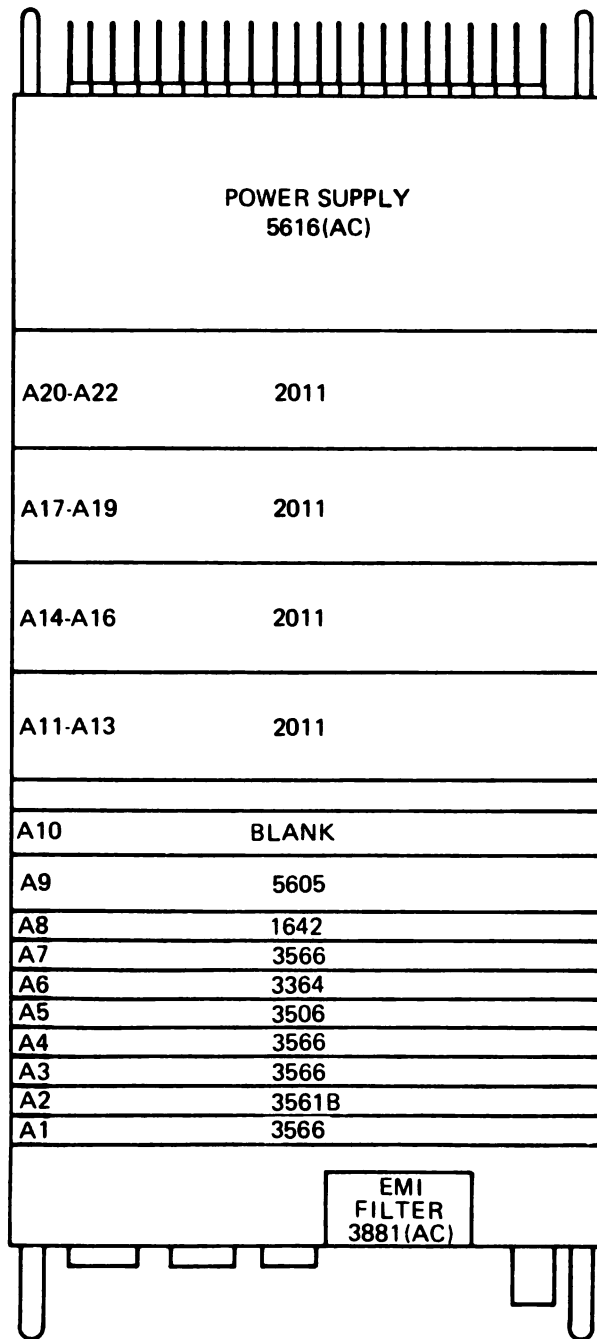
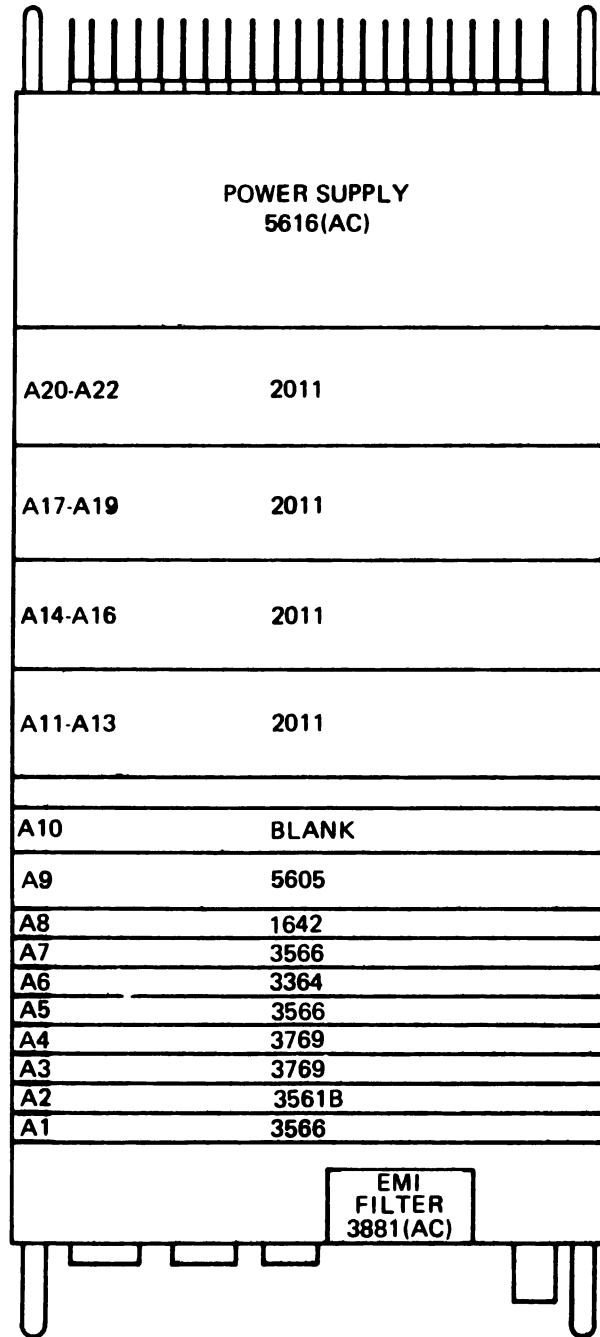

Figure C4-1. AN/UYK-19 Processor Configuration for Receiving Shelter of AN/TSC-99 System
Figure C4-2. AN/UYK-19 Processor Configuration for Transmitting Shelter of AN/TSC-99 System
b. Configuring Processor. To configure the processor for the receiving and transmitting shelters of AN/TSC-99 system as shown in figures C4-1 and C4-2, proceed as follows:
2. Refer to table C4-1 and figure C4-1 for receiving shelter, table C4-2 and figure C4-2 for transmitting shelter, and remove any circuit card that is not in configuration (para 2-39).